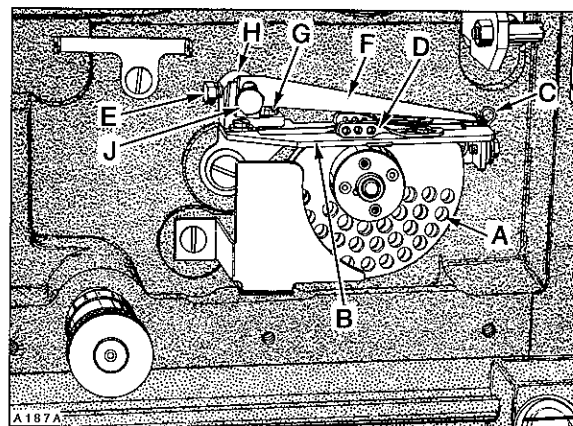

Fig.21
Looper thread take-up (A, Fig. 21) must be centered front to back in cast-off plate (B). It should also be positioned so as the needle bar is descending, the looper threads are "cast-off" the highest lobe of looper thread take-up when the point of the left needle is even with the bottom of its looper blade.
collar by applying pressure on the collar **CLOCKWISE** while tightening screw (A) securely. Cast-off plate (B, Fig. 21) should be positioned horizontally. Which can be adjusted by repositioning latch (C). Set adjustable eyelets (D) in the center of their mounting screws. More or less, looper thread can be supplied in the stitch by moving adjustable eyelets to the right or left respectively.